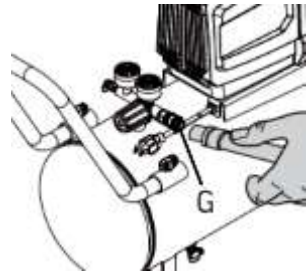

Fig. 4
2. Set the power switch (B) to the off position, which is identified with a "O" shape.
3. Turn the air pressure regulator knob (D) counterclockwise fully until it stops.
4. Connect an air hose (not included) to the compressor's air outlet (G) (Fig. 4).